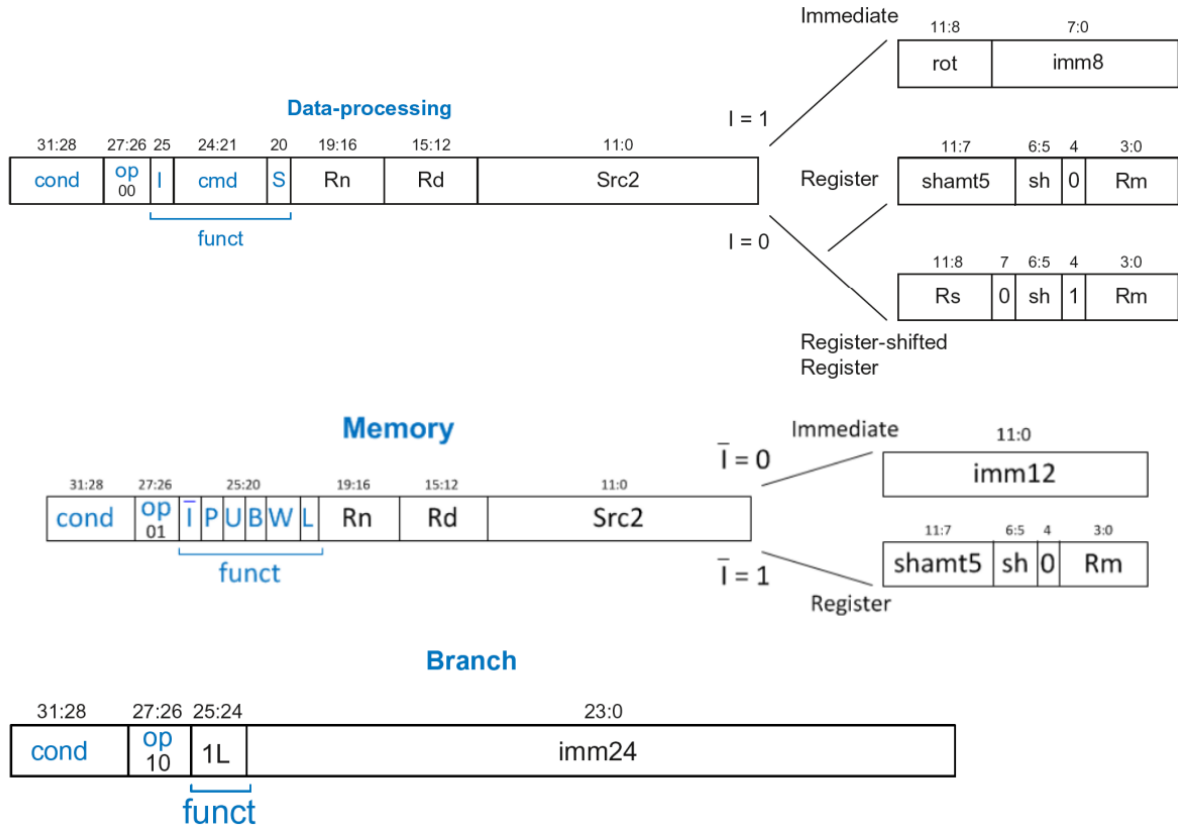

Figure 2: ARM ISA Format
**Note:** You will use the 32-bit ARM ISA format as shown in Figure 2.